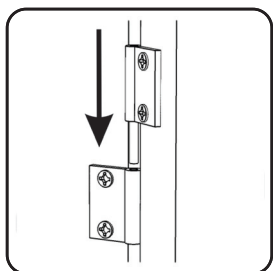

Figure 5
Attach Door (J) by sliding the door lift hinges into the side panels lift hinges. (See Figure 5)